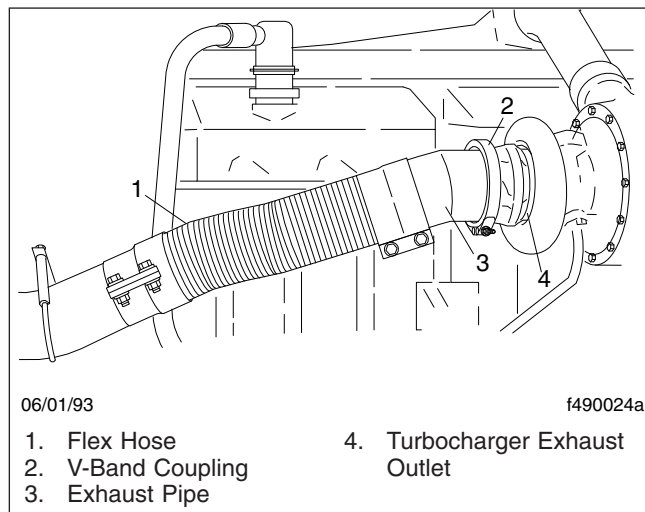

Fig. 6, V-Band Coupling and Flex Hose
2. Inspect the exhaust flex hose (see **Fig. 6**) for leakage, wear, or damage. Replace with new parts if replacement is needed.
3. Check for leakage at the V-band coupling, which attaches the exhaust pipe to the turbocharger exhaust outlet. See **Fig. 6**.